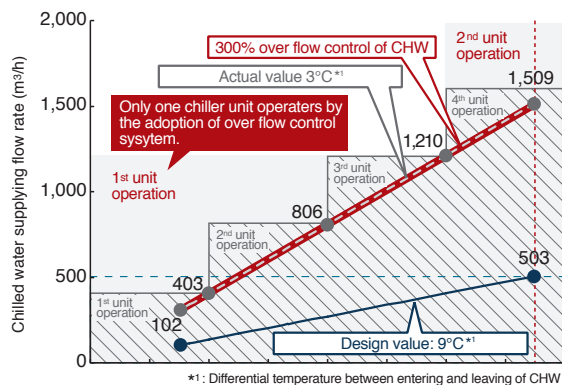

Figure 1
- In the case of the multiple constant speed chillers' operation such as a district cooling system plant and a large capacity system, the cooling demand may be little depending on the season or time of operation. In such a case, multiple chiller units which can expense the cooling demand or more should be operated to secure the supplying chilled water flow rate. Therefore, each chiller is operated in the low load area in which the COP is low. In addition, the number of starting cooling and chilled water pumps is increased and the COP of the whole chiller system decreases. For the variable over water flow system, the chiller and water pump are designed to have an availability of chilled water flow rate more than the rated value. This design suppresses the number of starting chiller auxiliaries including chiller and water pump and secures the cooling water flow rate. Moreover, by suppressing the number of starting chillers, the load of each chiller is increased and it is capable of operating the chillers at the load point in which the COP is relatively high. Then, the COP of the whole system is improved. Figure 1 and 2 show the operating simulation of this system. *If the variable over water flow system is not adopted, it is required to start three chillers and those auxiliaries to secure 1,210 m³/h chilled water flow rate. (Figure 1) Accompanying with the increase of the chilled water flow rate, each chiller is started one by one and the COP of the whole system decreases at each time. (Figure 2) This is caused because each chiller must be operated at low load (cooling demand / the number of chiller units). When the variable over water flow system is adopted, it is capable of securing 1,210 m³/h chilled water flow rate by starting only one over flow control chiller. This chiller operates at the load equivalent to the cooling demand and makes it possible to operate at a higher COP, comparing to the chiller without this system under the same condition.